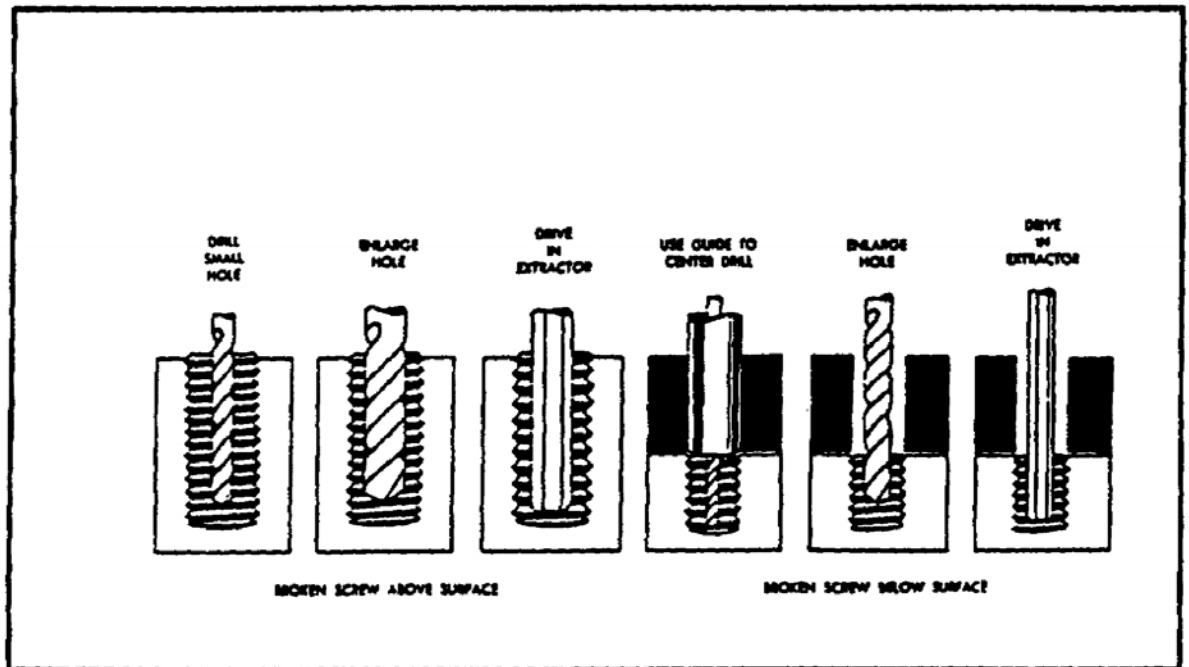

FIGURE 148. USING STRAIGHT FLUTED TAP AND SCREW EXTRACTOR.
(1) Before using an extractor, make certain broken chips of screws, bolts, or taps are removed from the hole. A sharp pointed tool, such as a scribe, or a small brush may be used for this purpose.
(2) The use of the straight fluted type extractor (figure 148) requires that a well-centered small hole be drilled in the